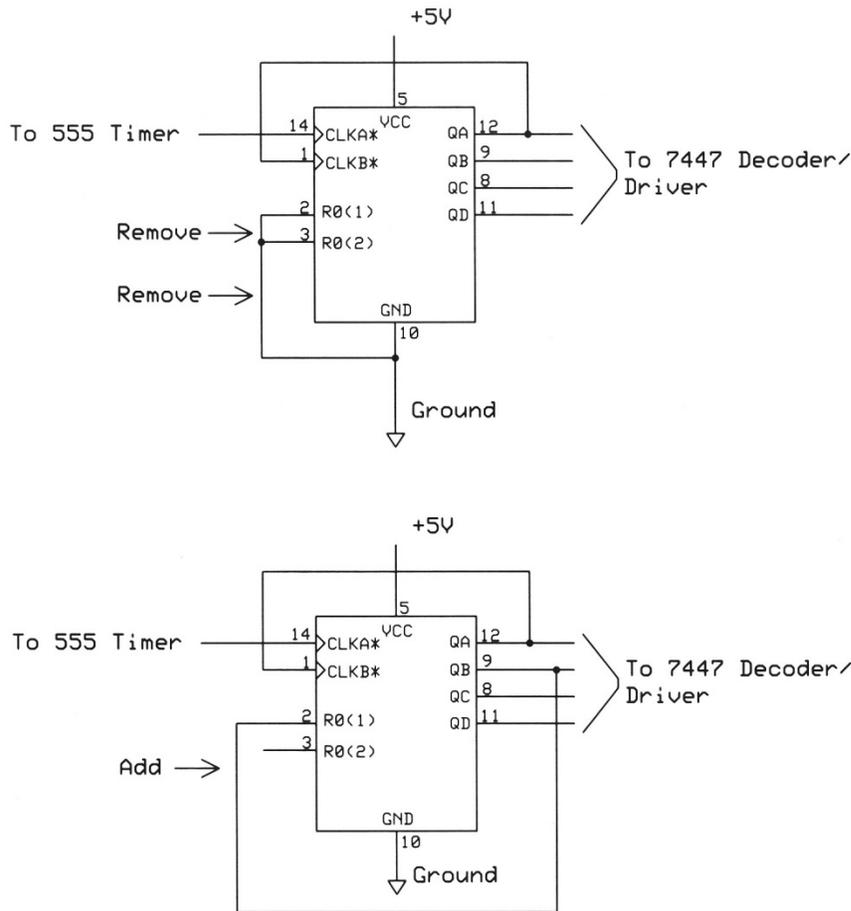

Figure 3.12.
jumper wire from the counter's QB output (pin 9) to the reset input R0(1) at pin 2 as shown in **Figure 3.12**. A logic-1 at the QB output will reset the counter back to 0000₂, and the display will show 0. The counter-reset input R0(2) at pin 3 remains unconnected and supplies a logic-1 to the counter.